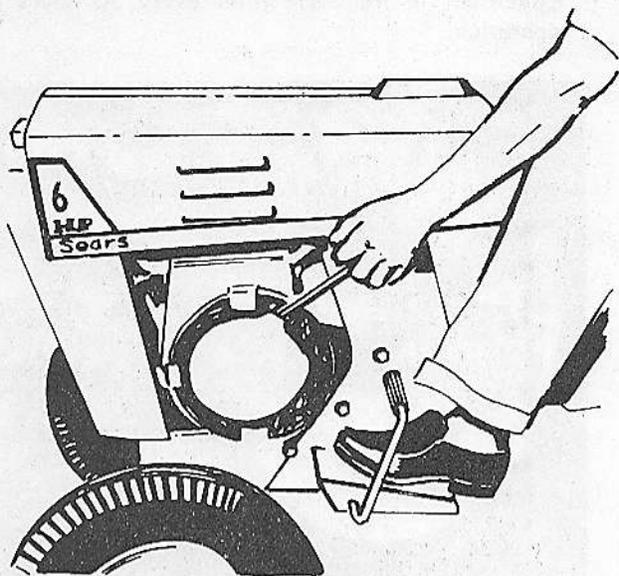

FIG. 9
3. Grasp recoil starter handle and pull sharply. Refer to Fig. 9. Do NOT allow starter rope to snap back. Rewind slowly keeping hold of the starter handle at all times.